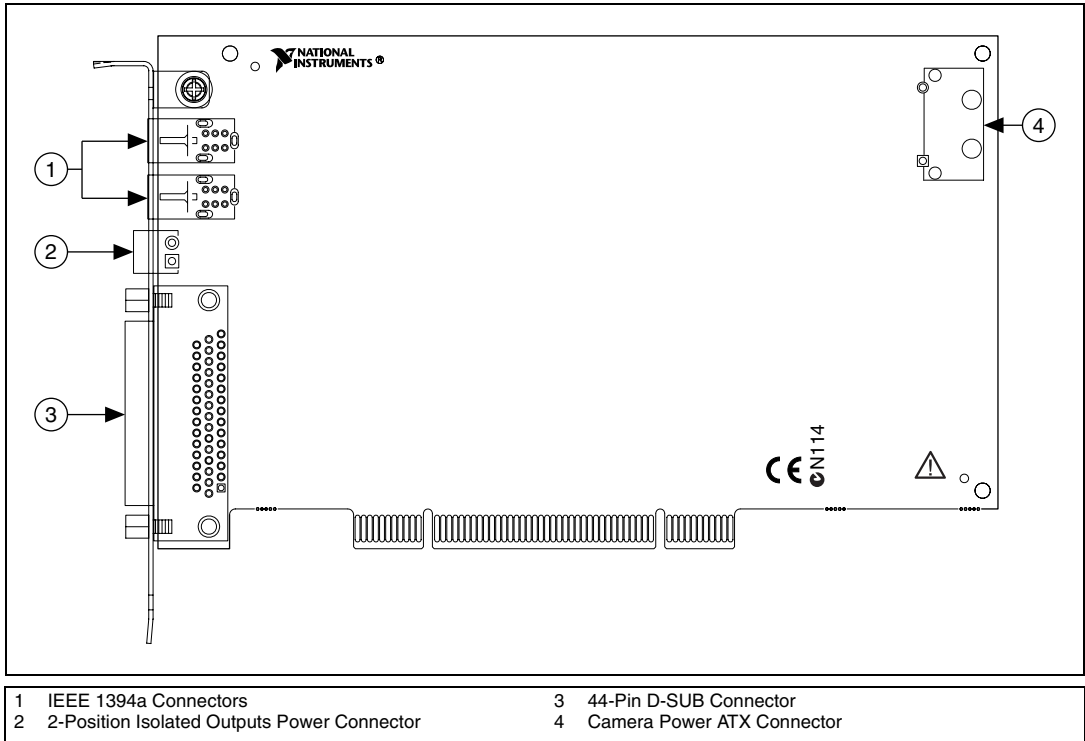

Figure 1. NI 8254R Connectors
- To provide power to your camera, connect an unused power connector from the ATX power supply on your computer to the Camera Power ATX connector on your NI 8254R, shown in Figure 1.
Figure 1 shows the information about placement of the connectors on the NI 8254R.
- Connect the IEEE 1394a cable to an IEEE 1394a connector on the NI 8254R front panel. Refer to Figure 1 for the location of the IEEE 1394a connectors on the NI 8254R.